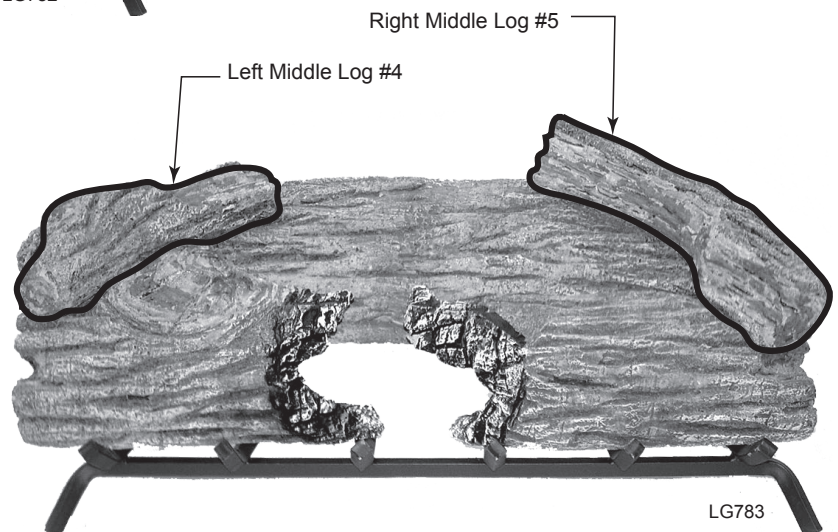

Figure 14 -
4. Install left middle log #4 as shown. *Figure 14*
5. Install right middle log #5 as shown. *Figure 14*